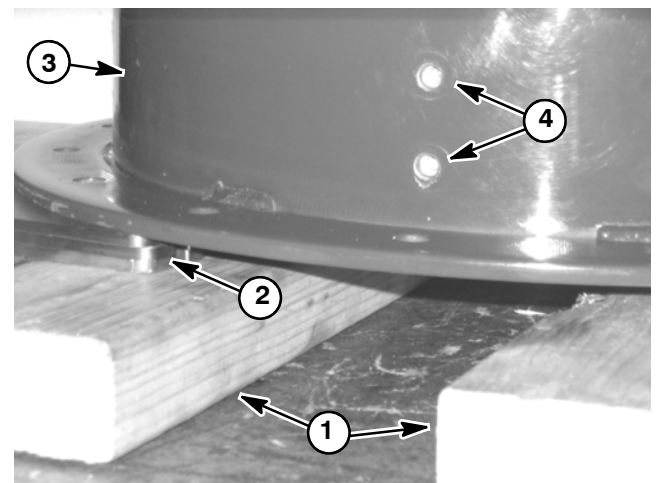

Figure 16
9. Place inner housing on two (2) supports (2" x 4" or equivalent). Then, place 9/16" (14.3 mm) thick support between supports and outer housing (Fig. 16). This process will support fan housing assembly to prevent unexpected shifting of any components during disassembly.
10. Loosen, but do not remove, eight (8) screws (item 15) that secure inner housing to outer housing.
11. Remove flange head screw (item 13) that secures each stator vane (item 10) to outer housing. Carefully tilt vane to free vane lugs from inner housing and remove vane from assembly. Repeat for all twenty four (24) vanes. Inspect each vane to make sure that mounting lugs and screw threads are in good condition. Replace any vane that shows signs of damage or wear.
12. Fully remove screws (item 15) that secure inner housing to outer housing.
2. Place inner housing assembly with the rotor shaft pointing upwards onto two (2) supports (2" x 4" or equivalent). Carefully lower outer housing around inner housing assembly. Then, place 9/16" (14.3 mm) thick support between supports and outer housing (Fig. 16). This process should allow alignment of mounting holes in inner housing flanges to outer housing.